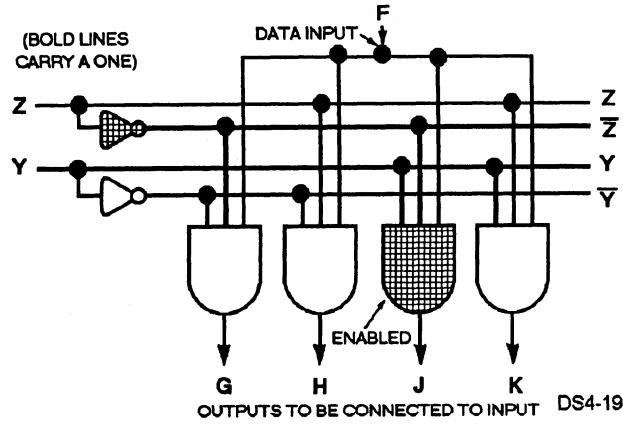

Figure 4-19.—Example of a demultiplexer circuit.
- **Demultiplexer** —A data demultiplexer routes data from one input to any one of several outputs. Refer to figure 4-19.